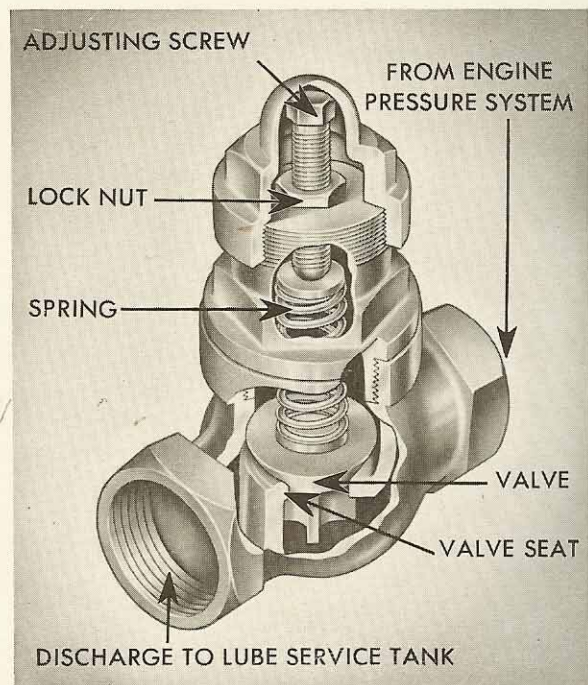

FIGURE 20-7
10. LUBE OIL RELIEF VALVE: This valve allows the excess oil delivered by the pressure pump to pass back into the lube oil service tank. Figure 20-7 shows that it is an adjustable spring loaded check valve. By screwing down on the adjusting stud the tension of the spring is increased, thereby holding the valve down on its seat. Do not adjust this valve until the engine and the oil in the system are thoroughly warm. Be sure and tighten the lock nut when the adjustment is complete.